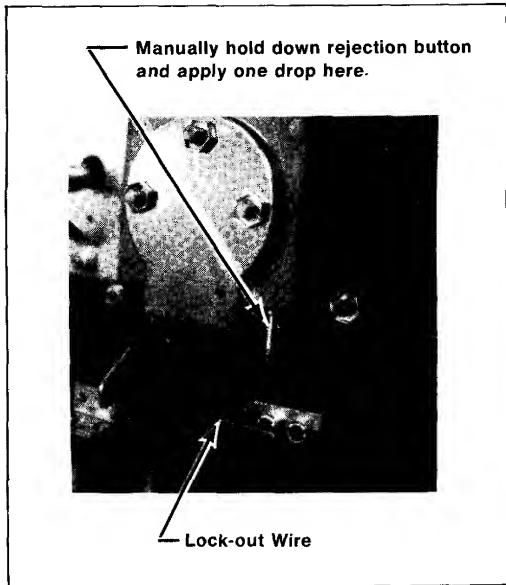

Figure 9 Close-up View of Lubrication Point
**Lubrication.** Do not apply lubrication to the coin mechanisms. The only points that may need lubrication (and only rarely) are the shafts of the scavenger buttons (coin rejection buttons) where they pass through the coin door. Apply only one drop of light machine oil, and be positive that no oil drops down onto a coin mechanism. Figure 9 shows this lubrication point.